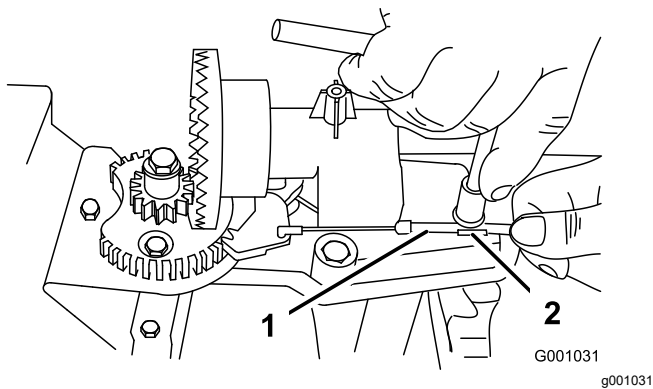
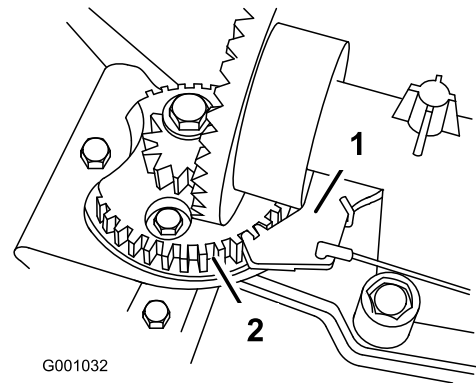

Figure 40
Figure 41
2. Loosen the bolt on the cable clamp (Figure 40).
3. Grasp the cable conduit and move it toward the front of the machine until the discharge-chute latch fully engages the gear teeth (Figure 40 and Figure 41).
**Note:** The latch is spring loaded and naturally moves into the teeth of the gear (Figure 41).